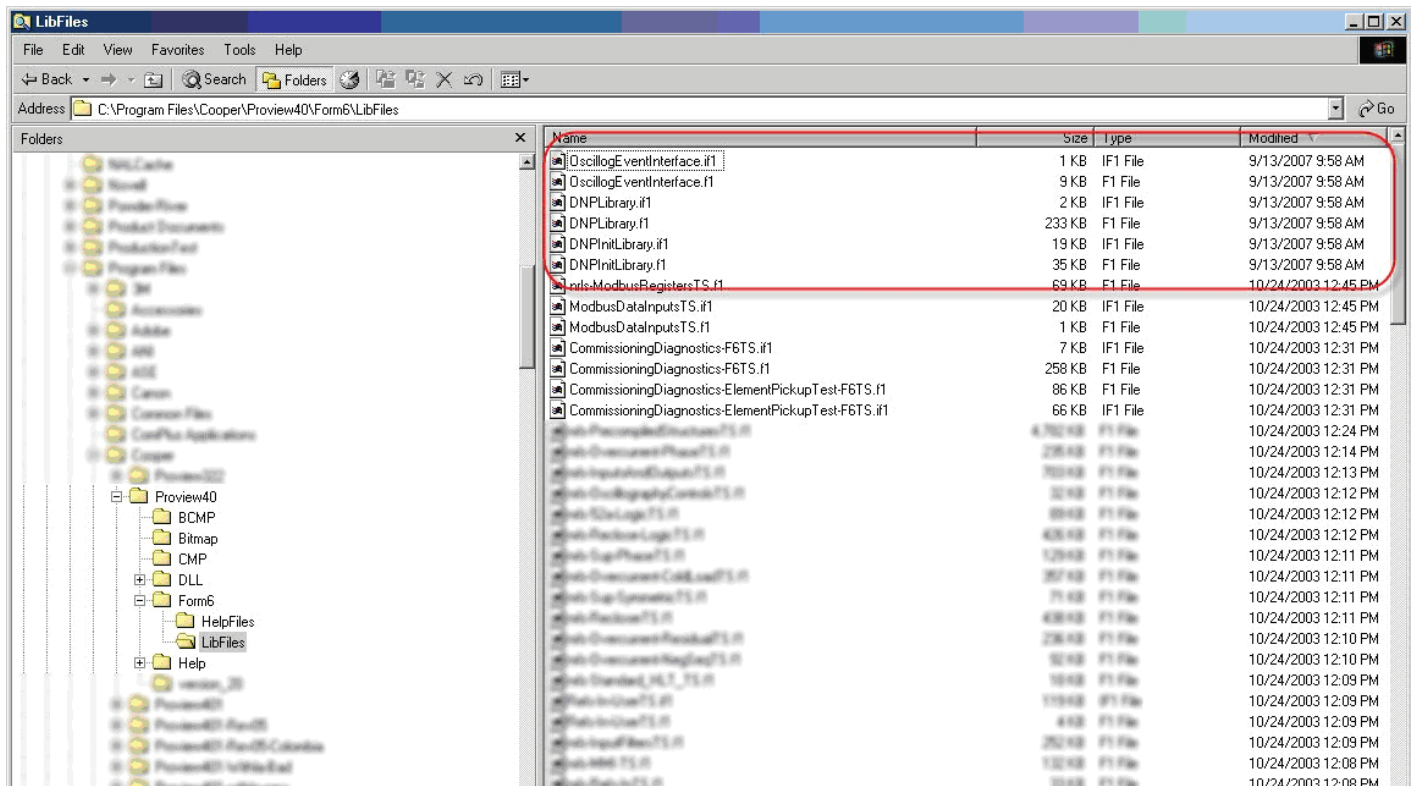

Figure 2. Modified files example.
2. Use Microsoft® software Windows® operating system Explorer to navigate to the C:\Program Files\Cooper\Proview40\Form 6\Libfiles folder on your PC (Figure 2).
Figure 2 shows an example of the \Libfiles\ folder, in which files were modified (see file dates) when a ProView 4.0 software scheme was converted to ProView 4.0.1 software scheme using the "Convert a Form 6 V4.0 scheme file into a Form 6 V4.0.1 scheme file" option of the upgrade wizard.